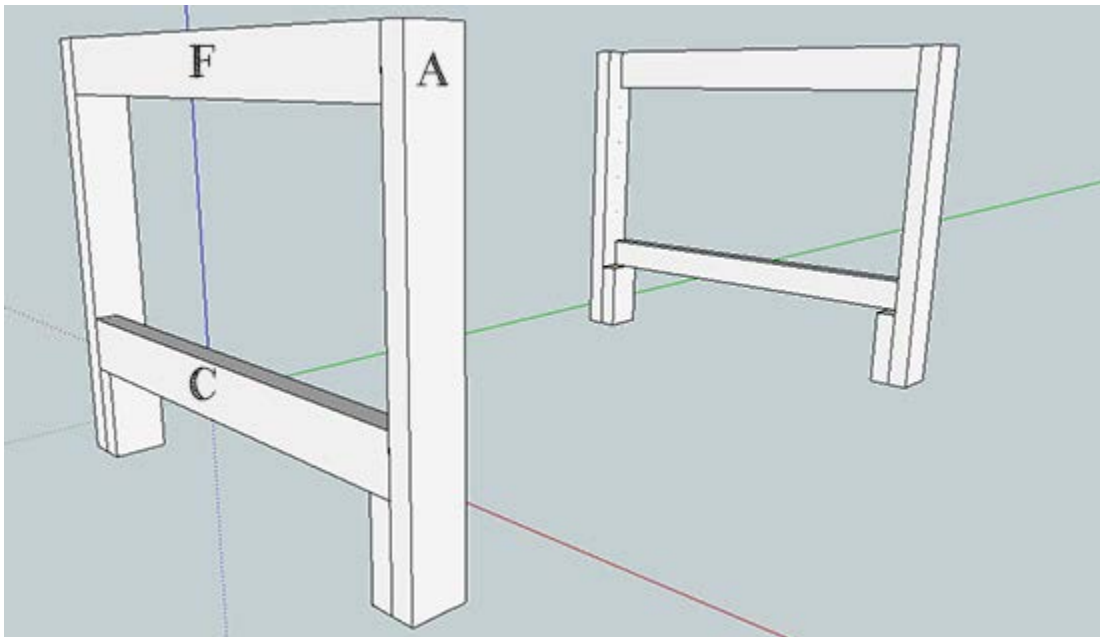

Figure 3: Side Supports
4. With the legs built, insert board 'C' between two 'A' legs and rest it on the 'B' boards. It can be secured to the 'A' and 'B' boards by using pocket screws from 'C' into 'A' or by using long wood screws inserted from the outside of 'A' into 'C' (Figure 3).
5. Repeat Step 4 with board 'F', flushing the top of the board with the top of the 'A' boards (Figure 3) and with the outer edge.